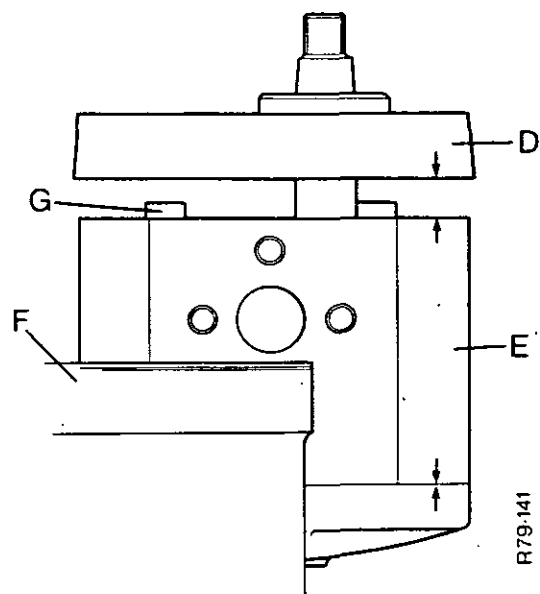

FIGURE 16. REMOVAL OF THE PUMP FLANGE
8. Hold the pump body in the vice as shown in Figure 16. Carefully pull the pump flange away from the body. As soon as the pump flange is clear of the dowels, hold it at an angle. Do this so that the keyway will not cut the seal in the flange when you pull it clear of the rotor shaft. Pull the flange clear of the rotor shaft. If the flange will not separate easily from the body, lightly hit it with a soft faced hammer or a piece of soft wood. This will free the flange from the dowels.